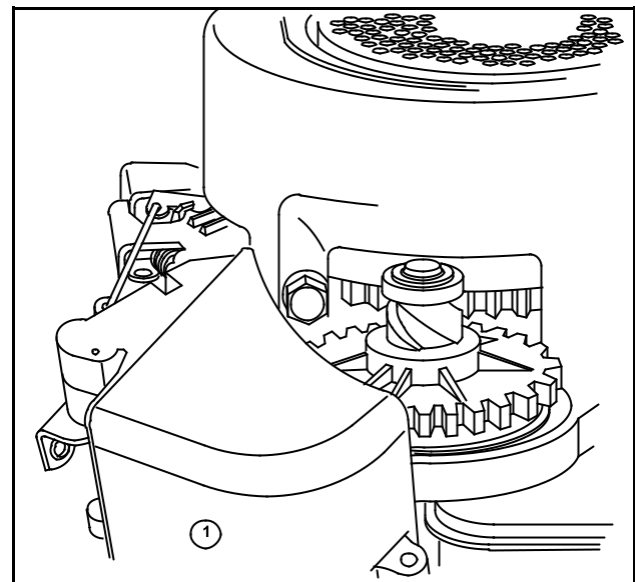

Fig. 118
3. Remove two switch cover screws. On System 4 engines, move cover (1) as shown in Fig. 118. Handle with care to prevent damage to lever caused by link when moving switch cover.